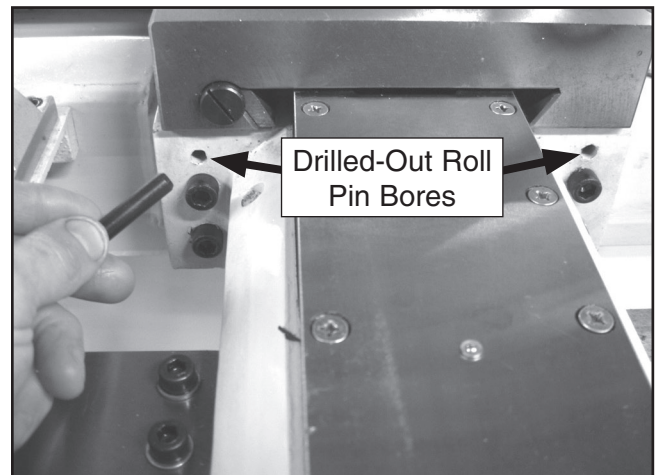

Figure 20. Roll pin installation.
- 29.** Using the existing 7.5mm diameter holes in the taper attachment housing as drill bit guides (**Figure 20**); drill two 8mm diameter holes 13mm deep into the carriage.